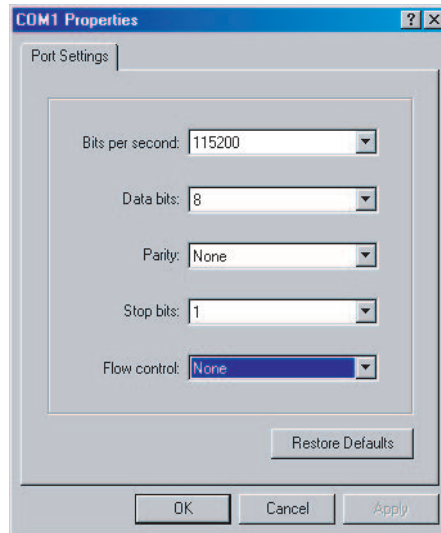

Figure 4.6: Hyperterminal Parameters
- Set all the parameters as shown in figure 4.6.